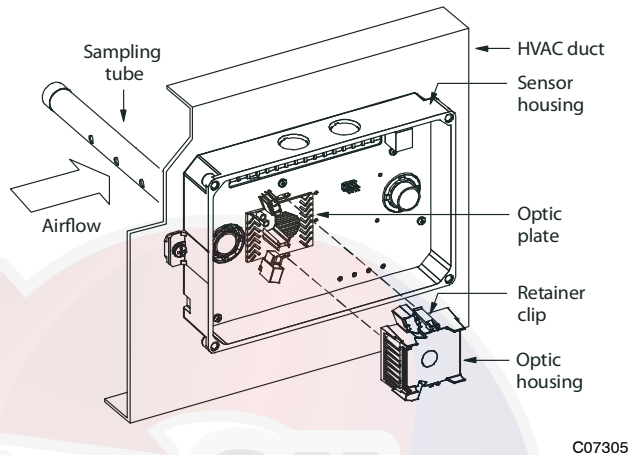

Fig. 44 - Sensor Cleaning Diagram
1. Disconnect power from the duct detector then remove the sensor's cover. See Fig. 44.